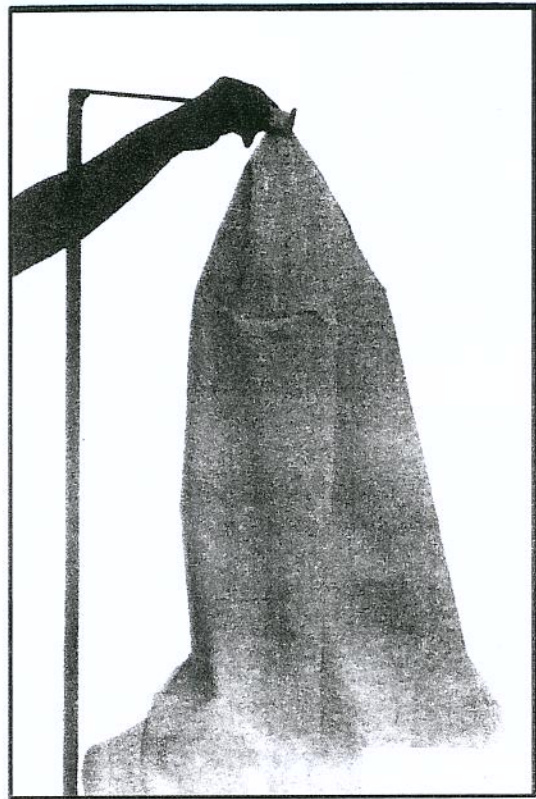

FIG. 13.
NEXT, HANG THE TWO BAGS (H) FROM THE SUPPORT RODS AS SHOWN IN FIG. 13.